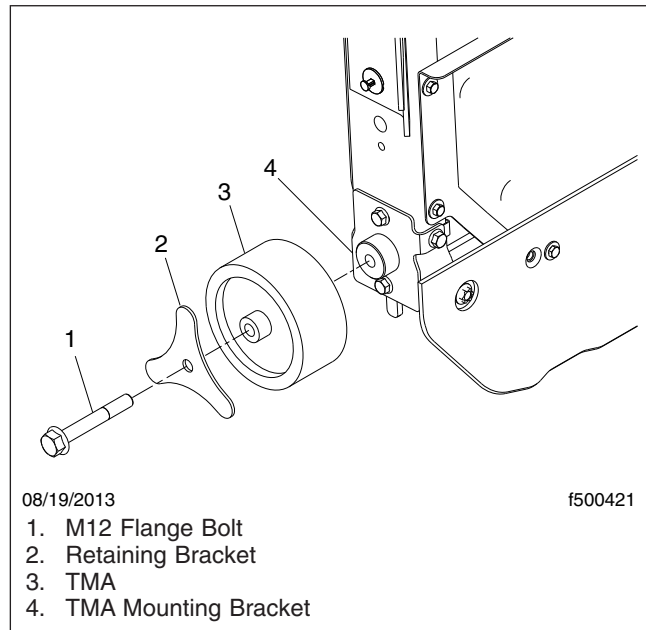
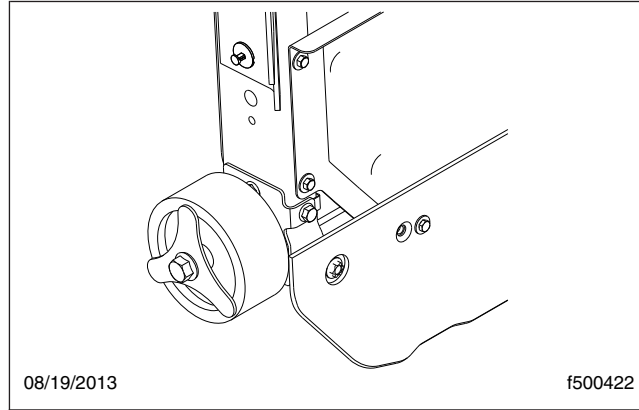

Fig. 9, TMA Installation (exploded)
Fig. 10, TMA Installation
12. Install the TMA, retaining bracket, spacer, and M12 flange bolt. Tighten the flange bolt 60 lbf-ft (81 N·m). See Fig. 9 and Fig. 10.